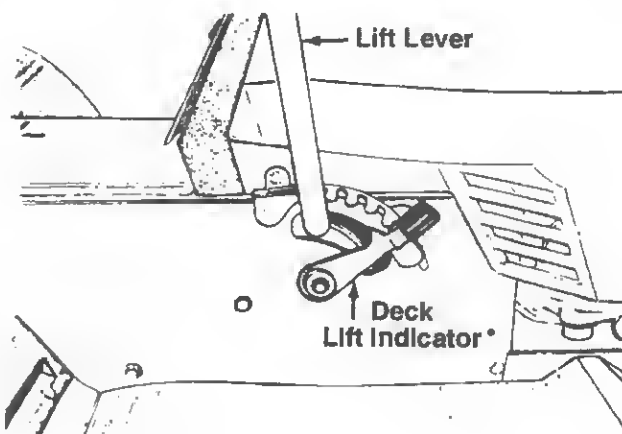

FIGURE 11.
**NOTE:** The lift lever *must* be in the **BLADES OFF** position when starting the engine, when shifting into reverse and if the operator leaves the seat. See figure 11.
The deck lift indicator marks the position being used for the lift lever. Select the lift lever position desired, press the indicator lever outward, move it to the position immediately below the lift lever and release the indicator lever. See figure 11.